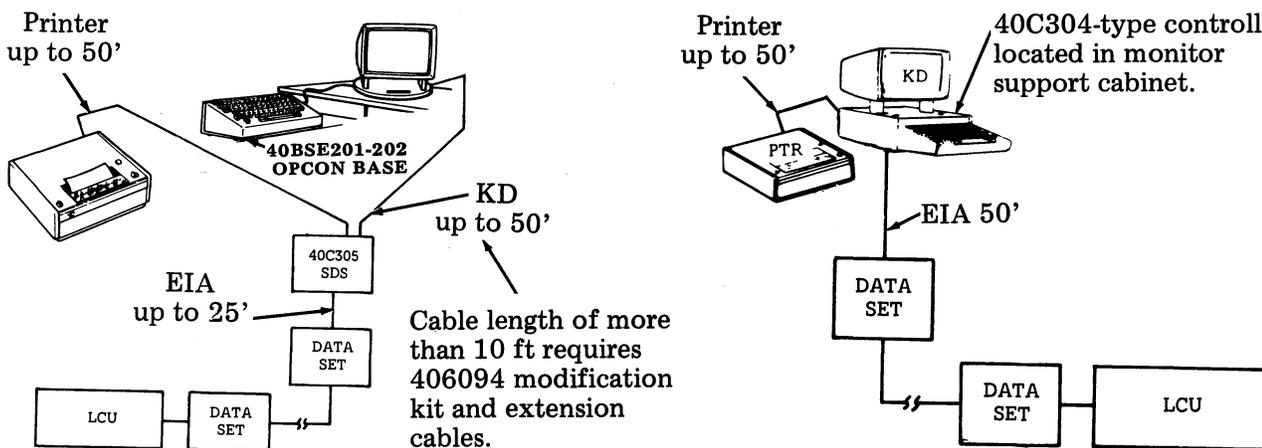

Fig. 3—Single Display Station Arrangements
2.03 A Single Display Station (SDS), shown in Fig. 3, is configured with one KD and an optional printer. The 40C304-type and 40C305-type controllers are electrically, physically, and operationally identical with the exception of the controller mounting hardware required for each application.